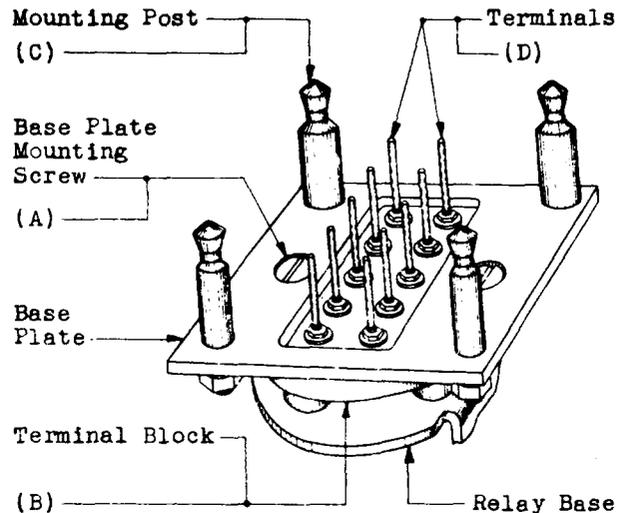

FIG. 1 - Terminal Block Assembly
- (a) Fig. 1 (A) - The base plate shall be held firmly to the terminal block by the associated base plate mounting screws. Gauge by feel.
- (b) Fig. 1 (B) - The terminal block shall be held securely to the relay base by the terminal block mounting screws. Gauge by feel.
- (c) Fig. 1 (C) - The mounting posts shall be held securely in the base plate by the associated mounting nuts. Gauge by feel.
(d) Fig. 1 (D) - The relay terminals shall be straight and shall be held tightly by the associated lock nuts. Gauge by eye and feel.